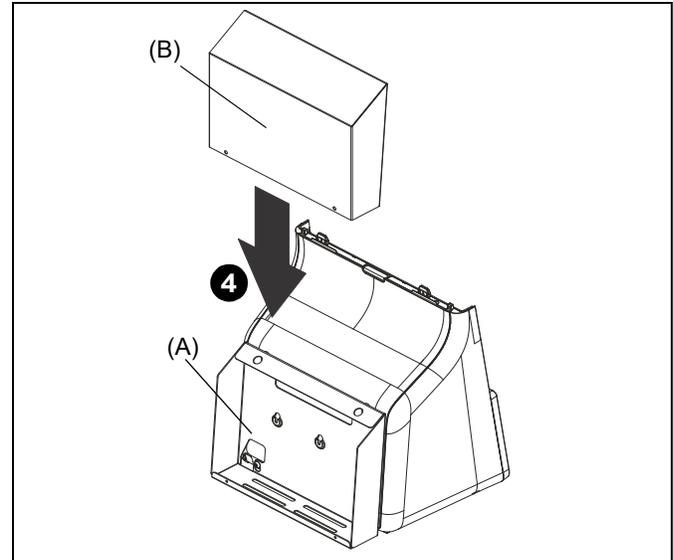

Figure 2
4. Install bracket cover (B) over kiosk bracket (A). (See Figure 2)